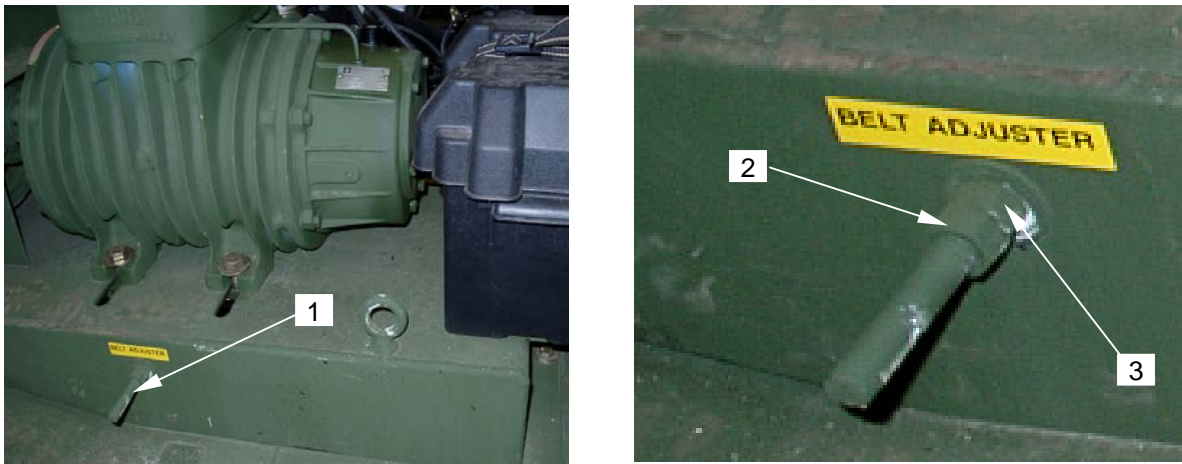

Figure 3. Belt Adjuster
- Loosen the belt adjuster mechanism (**figure 3, item 1**) locknut (**figure 3, item 3**).
- Turn adjusting nut (**figure 3, item 2**) to the right to tighten the drive belt.